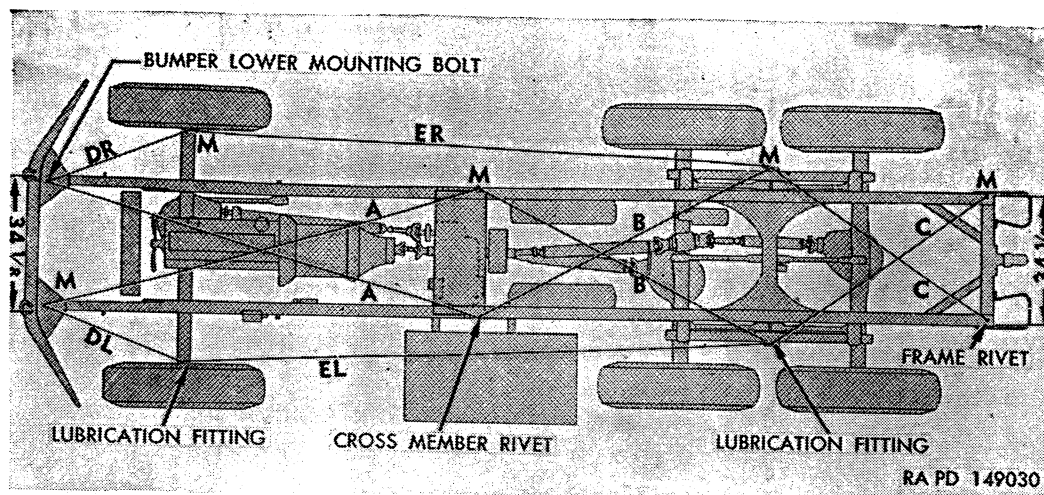

Figure 301. Method of checking frame alinement (M135 shown).
(fig. 301)
*b. Checking Frame Alinement.* The most convenient method to check frame alinement, particularly on vehicle equipped with a body, is by marking on the floor all points from which measurements are to be taken. This can be accomplished by tacking or cementing pieces of paper to the floor under each point of measurement. Start at front of vehicle (M, fig. 301) and drop a plumb bob from each point indicated in figure 301. Satisfactory checking is dependent upon accuracy of marks with relation to frame. When each point shown has been marked carefully and the vehicle moved away from the layout on the floor, proceed as directed in (1) through (5) below.
- (1) Check frame width at front and rear, using corresponding marks on floor. If widths correspond to dimensions given, draw centerline full length of vehicle halfway between marks indicating front and rear width. If frame widths are not correct, lay out centerline as directed in (4) below.
- (2) With centerline properly laid out, measure distance from opposite points marked over entire length of chassis. If frame is in proper alinement, measurements should not vary more than one-eighth inch at any point.